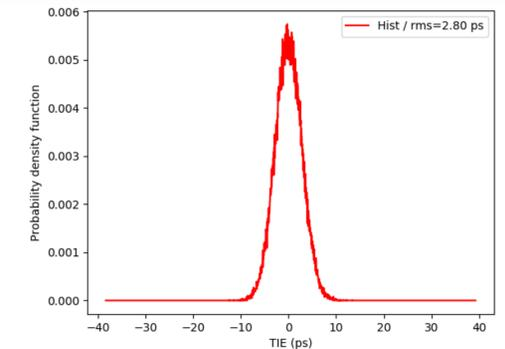

Figure 7: Time Interval Error of the ECLK0 signal (40MHz) made available via the VLDB+ SMA connectors
- Perform characterisation and timing analysis (jitter, phase noise, phase determination,...). The Figure 7 shows a TIE analysis done in the VLDB+ through the ECLK0 SMAs.